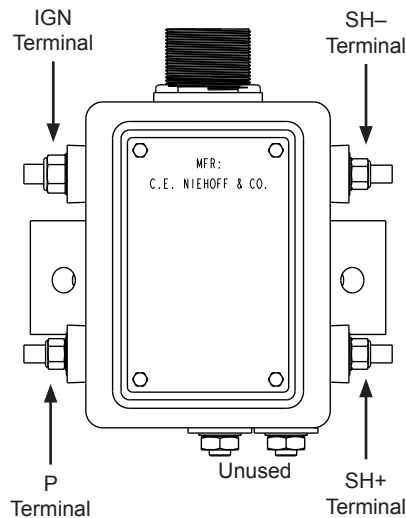

Figure 5: N3045
- Phase output (optional, N3045 only): P terminal taps AC voltage from alternator phase for use with relay or tachometer. Output is typically half of the output voltage at a frequency ratio of 10:1 of alternator speed (See Figure 5).
- Regulator SH+ and SH- terminals (optional, N3045 only) allows for alternator current limiting to 120 amps when connected to a 150A/50mV shunt on alternator output cable circuit (See Figure 5).